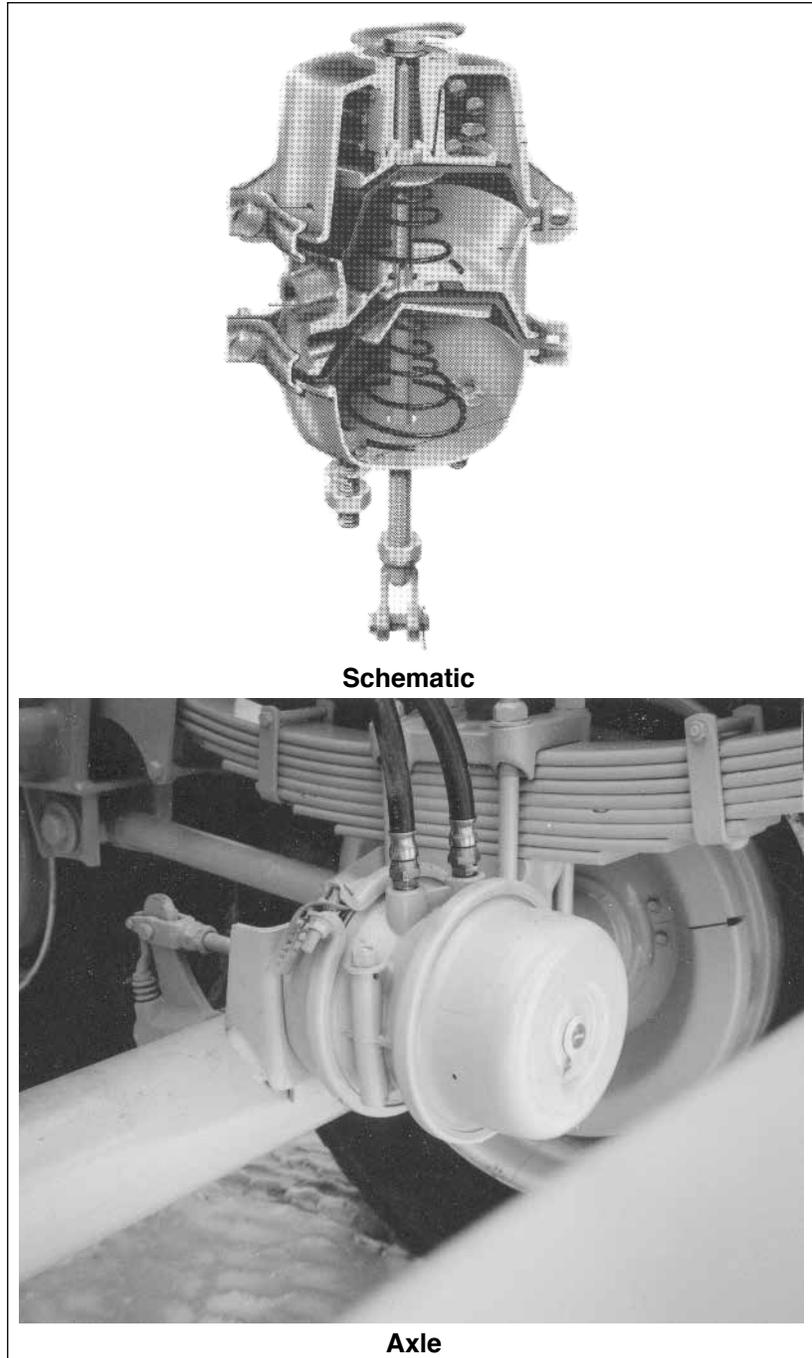

Fig. 72 SPRING BRAKE
2. With a lever, pry the slack adjuster arm until the brake shoes contact the drum and measure the slack adjuster movement (see Fig. 72).